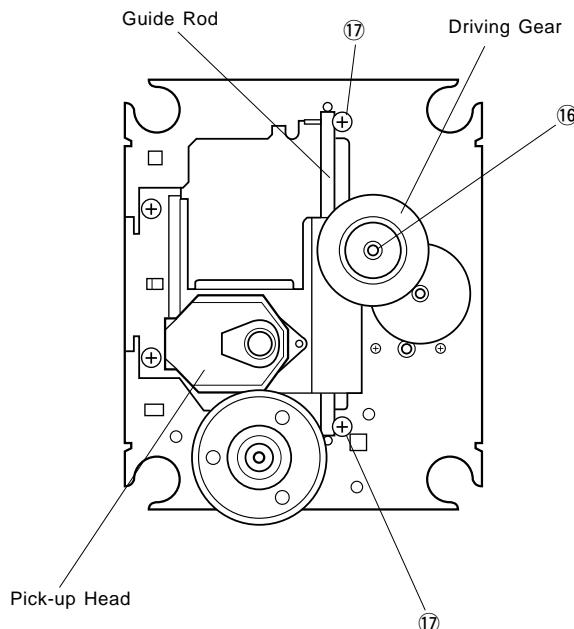

Fig. 13
- Remove a washer (⑯) and then remove the Driving Gear in Fig. 13.
- Remove 2 screws (⑰), pull out the Guide Rod and then remove the Pick-up Head in Fig. 13.